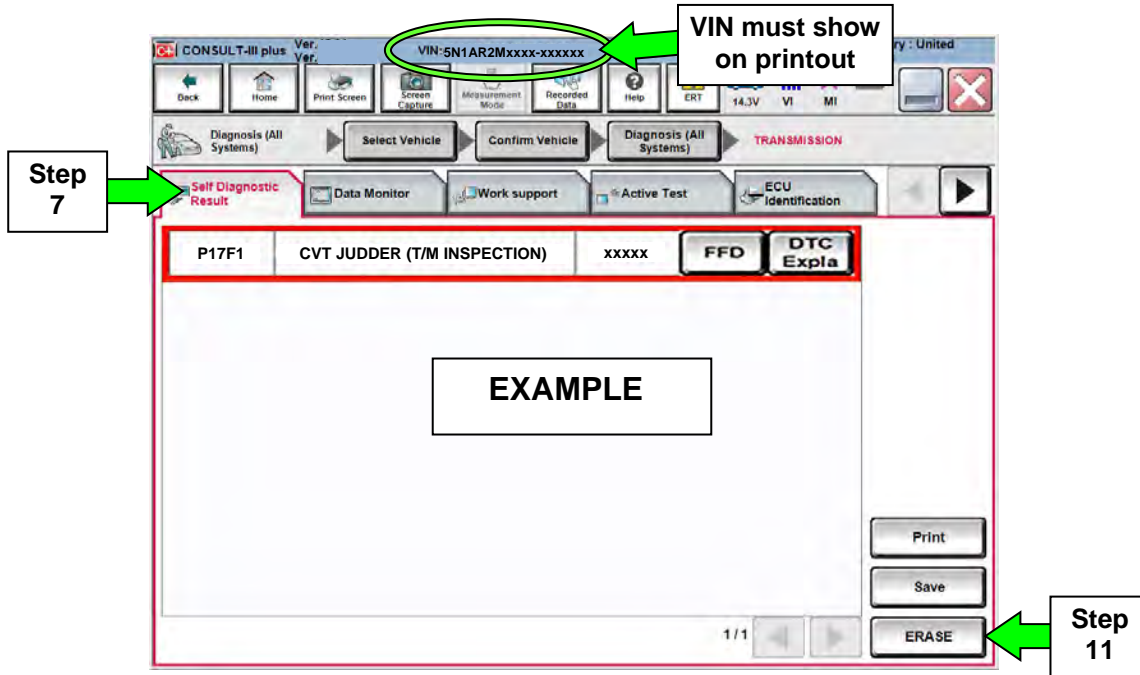

Figure 3A
8. Print a copy of the C-III plus screen showing the diagnostic result (see example in Figure 3A).